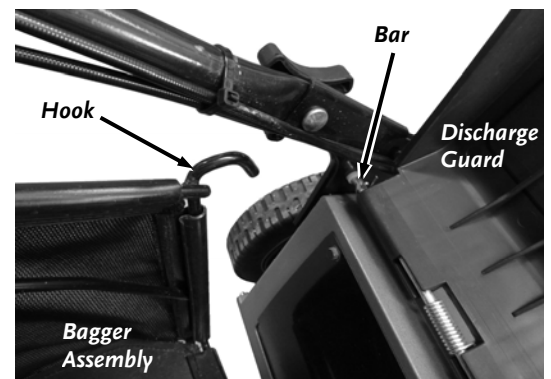

Figure 8
1. Hold the Discharge Guard in the upright position (**Figure 8**).